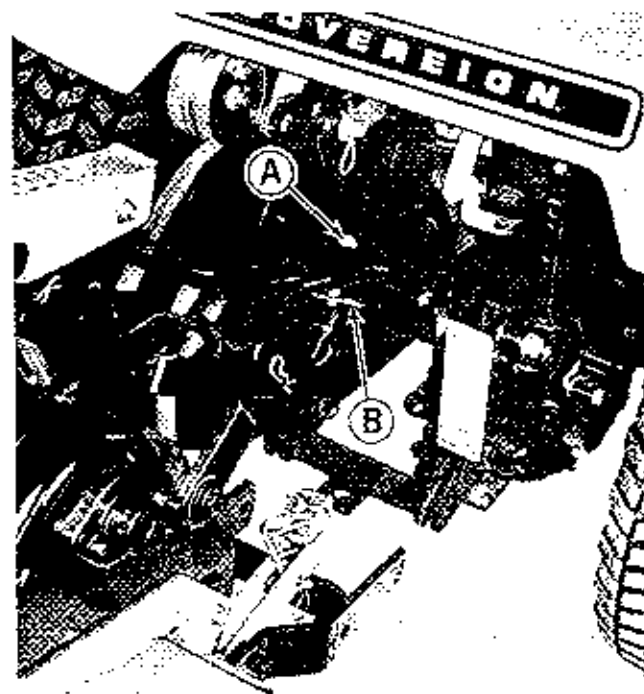

Figure 3. Lift rod installed in the tractor rear lift tube.
5. See figure 3. Install pin (A) and spring clip (B) then lift the tiller by using the tractor manual lift lever or electric lift switch.
5. See figure 3. Remove spring clip (B) and pin (A).